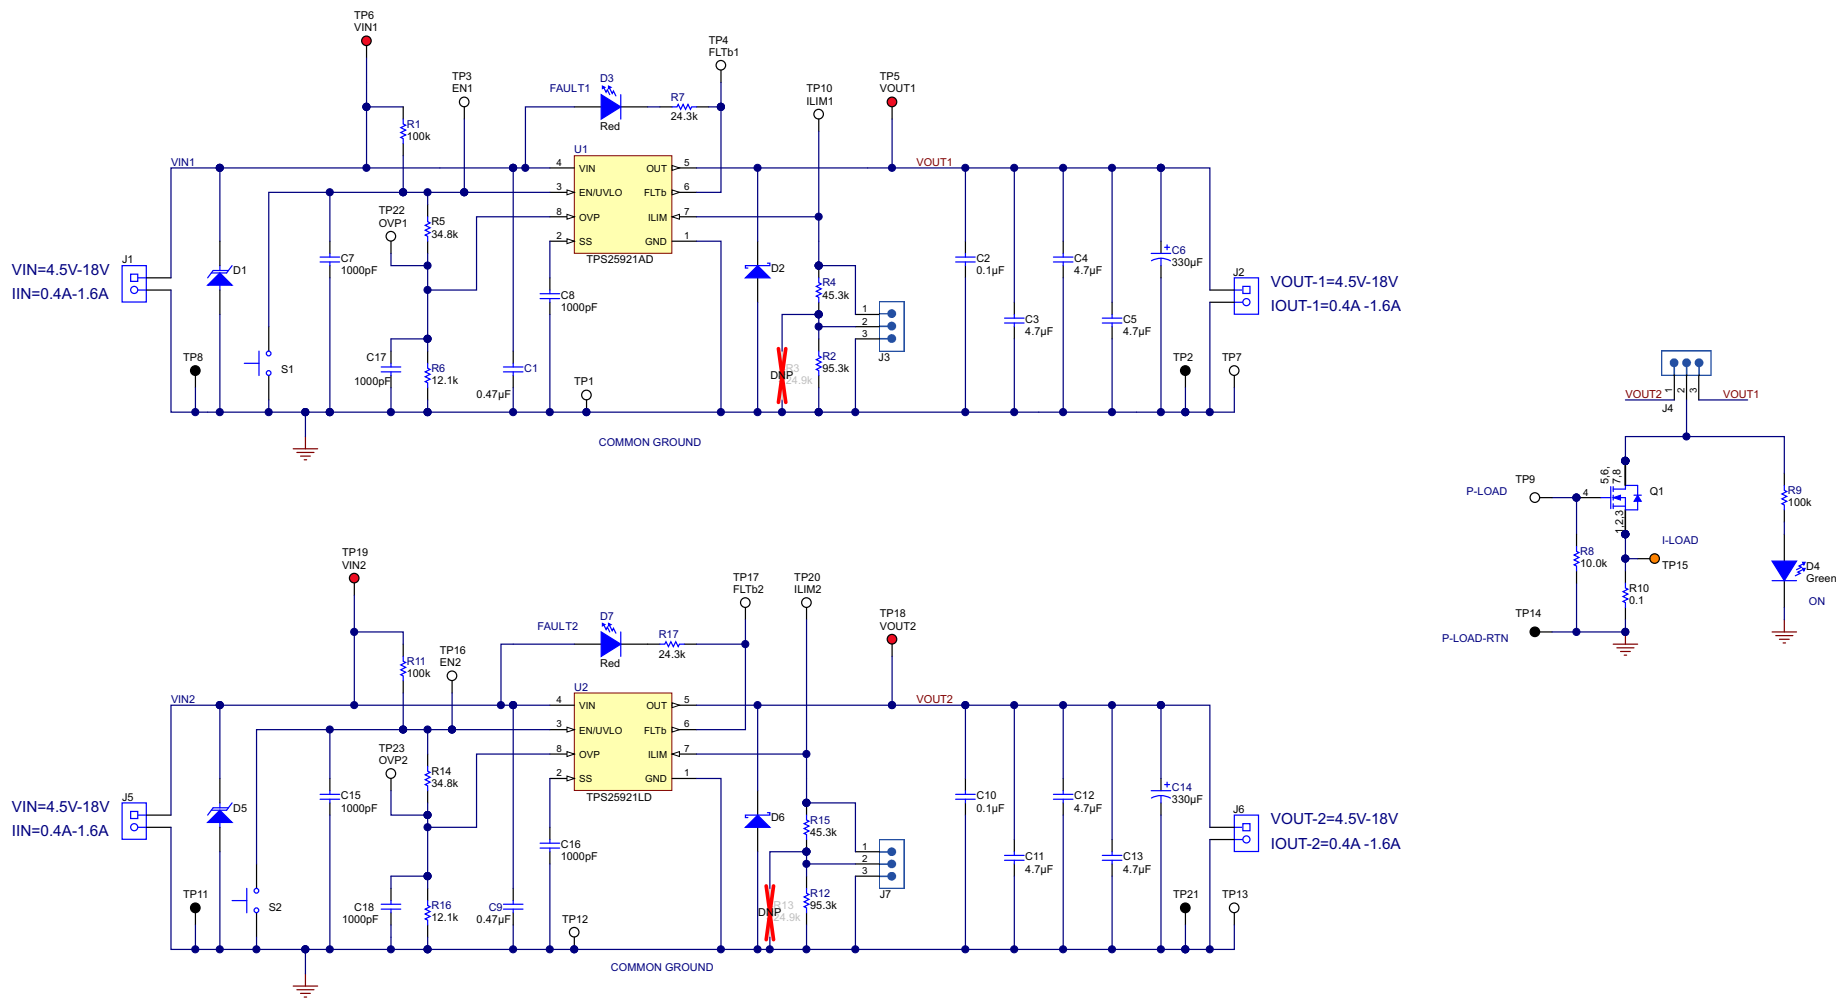
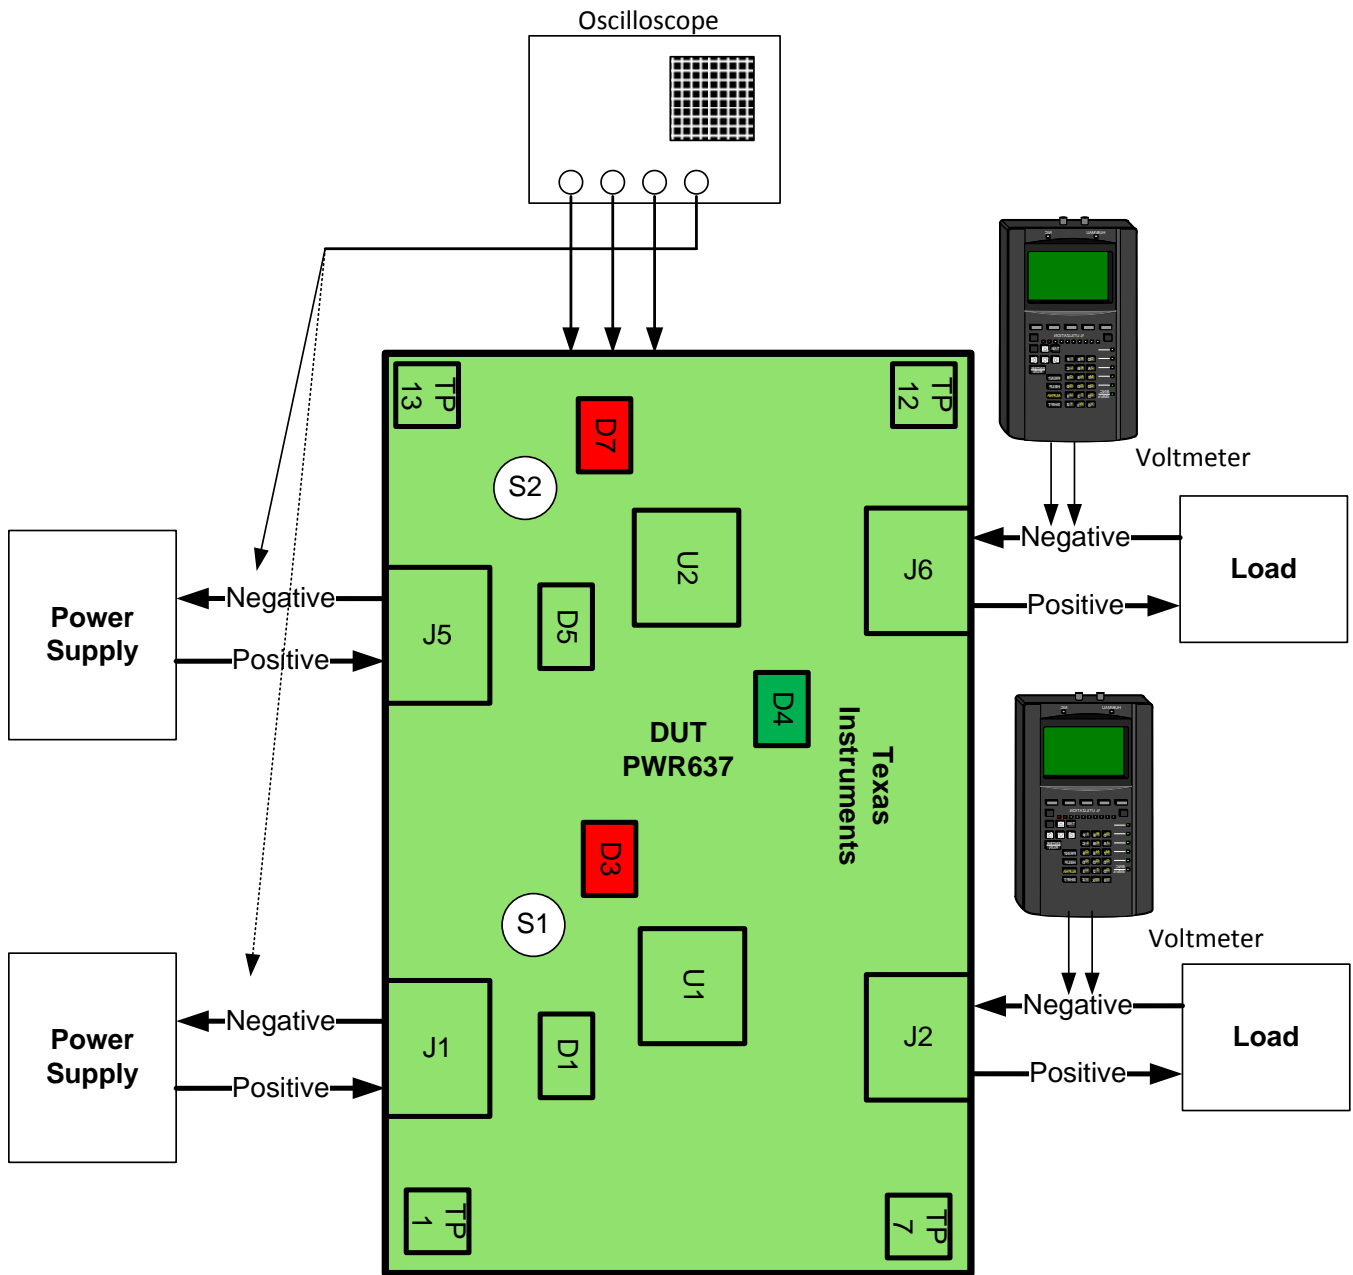

Figure 1. TPS25921X EVM Schematic
Figure 2. EVM Setup with Test Equipment
The TPS25921XEVM-637 enables full evaluation of the TPS25921X devices. The EVM supports two versions (Auto-Retry and Latched) of the devices on two Channels (CH1 and CH2, respectively). Input power is applied at J1 (CH1) and, J5 (CH2) while J2 and (CH1)/J6 (CH2) provide the output connection to the load. Refer to the schematic in Figure 1, and EVM test setup in Figure 2.
Figure 1 illustrates the schematic for this EVM.
Figure 2 shows a typical test setup for the TPS25921XEVM. Connect J3/J8 to the power supply and J2/J7 to the load.
3. Turn off the power supply. Hook up CH1 and CH2 of the PWR637 assembly as shown in Figure 2.